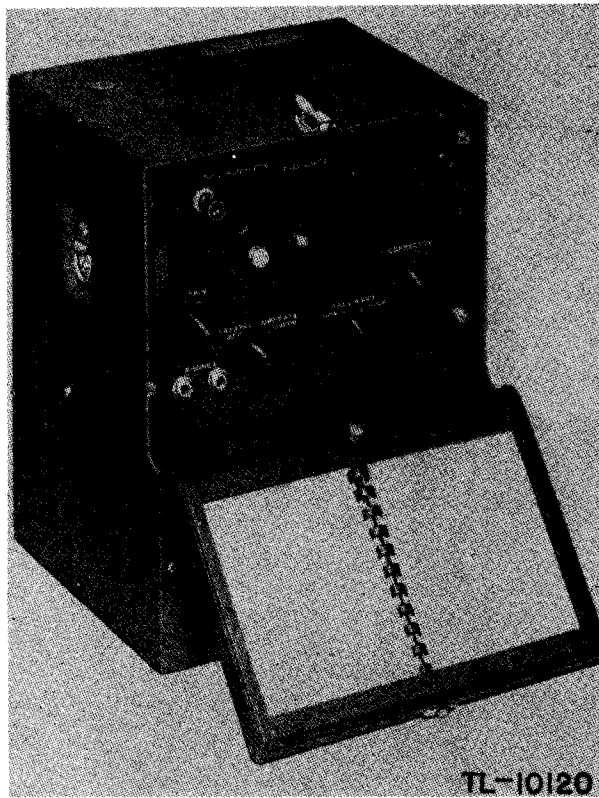
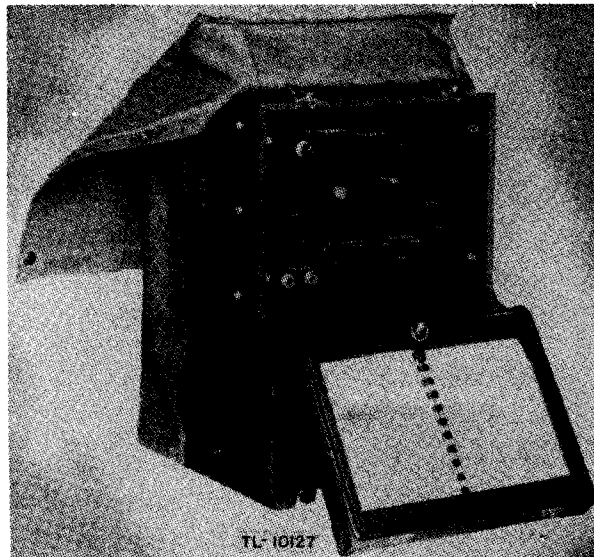

Figure 1. Frequency Meter BC-221-(Ĝ), in metal cabinet.
Figure 2. Frequency Meter BC-221-(Ĝ), in wooden cabinet.
b. The principal component of the set is Frequency Meter BC-221-(&), a heterodyne-type frequency meter, which is supplied in either of two types of cabinet: a black wrinkle-finished aluminum-alloy cabinet (fig. 1), or an olive-drab finished wooden cabinet. (See fig. 2.) The upper and largest compartment of the cabinet contains the frequency meter chassis and sometimes some of the spare parts. The next smaller compartment, at the bottom rear, contains the batteries. The smallest compartment, at the bottom front, contains either spare parts or the headset. (See figs. 19, 20, 21, and 25 for representative views.) A carrying handle and one or two snap latches are mounted on the top surface of the cabinet. Two small rings to which carrying Strap ST-19-A can be hooked, are mounted at the sides of the cabinet. The BC-221-Q, BC-221-AA, BC-221-AC, BC-221-AE, BC-221-AF, BC-221-AG, BC-221-AH, BC-221-AJ, BC-221-AK, and BC-221-AL frequency meters are normally supplied with the wooden cabinet. Some BC-221-Q and BC-221-AA frequency